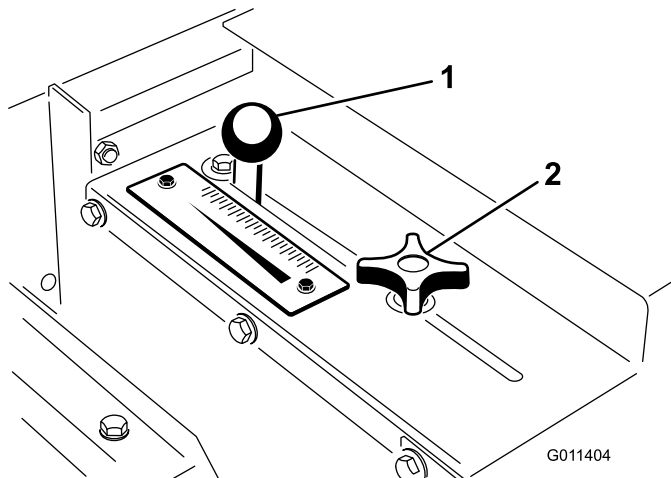

Figure 19
1. Loosen the locking knob (Figure 19) enough to allow it to slide freely in the slot.
2. Set the gate knob (Figure 19) into the desired position and tighten the locking knob to secure the adjustment.
Use the rate scale (Figure 19) to determine the desired flow rate. Refer to Sand Application Rate.